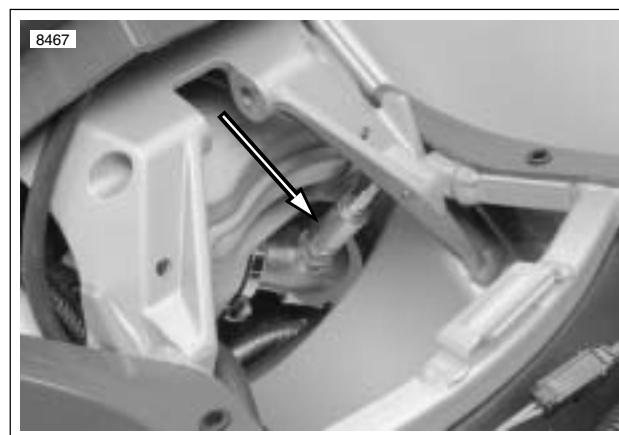

Figure 4-37. Oxygen Sensor (shock absorber removed)
- **Loose O2 sensor.** See Figure 4-37. If the O2 sensor is loose engine performance may be affected. This could also show up as a slow changing O2 sensor voltage.